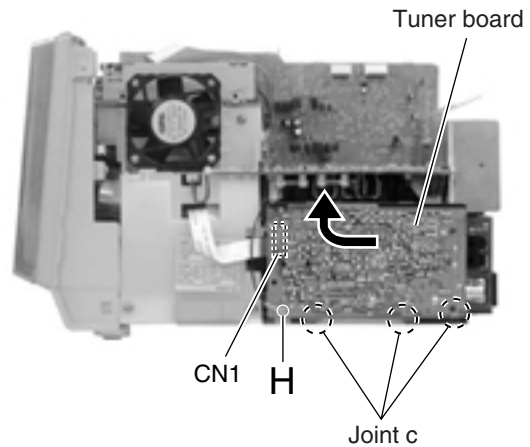

Fig.10
■ **Removing the tuner board (See Fig.10)**